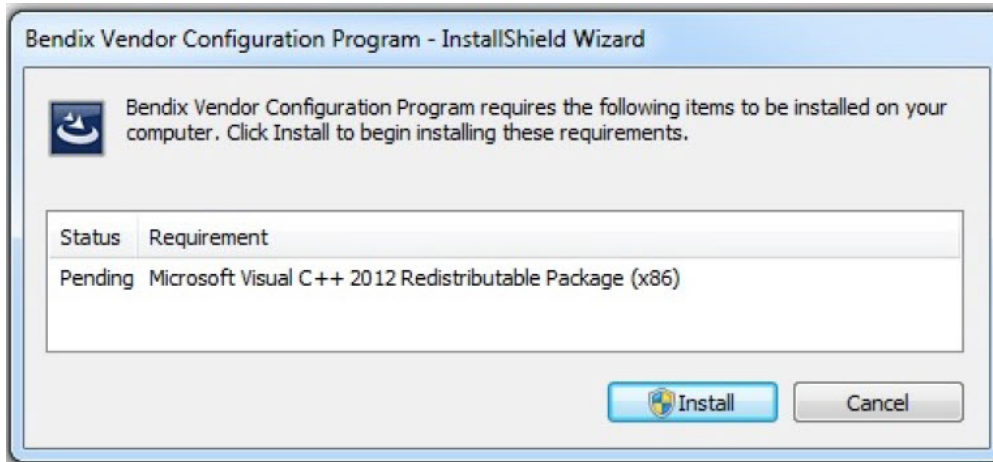

Figure 2
- **Note:** A message will be shown if an additional required component is not installed on the PC. [see figure 2]